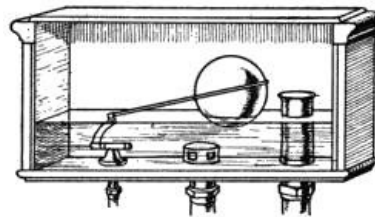

FIG. 32. Expansion tank.
67. Expansion Tank. The expansion tank (A, Fig. 31, and Fig. 32), placed somewhat higher than the top of the highest radiator, is fitted with an overflow, for water expands as it is heated. If the expansion tank is closed so that the overflow pipe will not open except under pressure after the air in the tank has become compressed by the expansion of the water, a higher temperature in the pipes may be reached, but such a furnace must be given more careful attention than one with an open expansion tank. Learn to know the parts of a heating system and how they operate before trying to manage it.